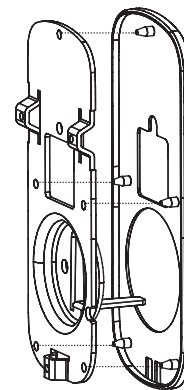

Figure 3A
- a. Ensure that gasket on Inside Mounting Plate is properly fitted. Note the positioning of the gasket's five rubber nubs (Figure 3A) .